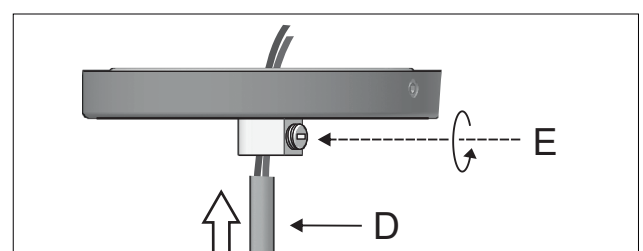

Figure 2
2 - Run the product's electrical cable (D) through the canopy and secure it with the cable holder screw (E). Figure 2.